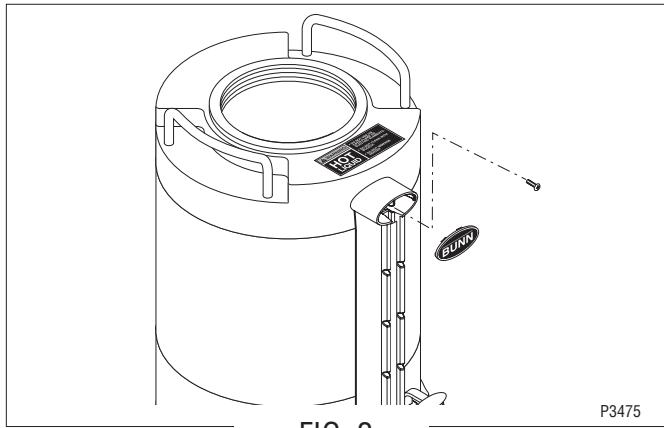

FIG. 2
- Using a standard screwdriver, remove the cover plate from the top of the sight gauge and remove the screw holding the top of the sight gauge in place. Retain the screw for use as an installation tool in step 7. (FIG. 2)